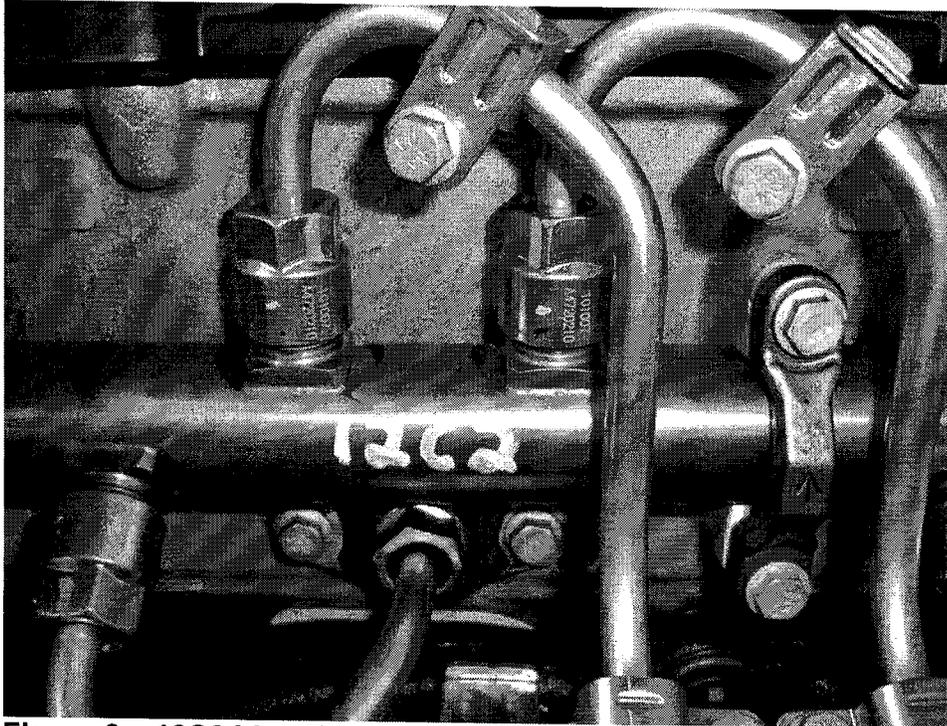

Figure 6 – 12C2 Identification on Fuel Rail.
If "12C2" is shown on a base label (Form WAR259) on the passenger-side door **OR** "12C2" is labeled on the Fuel Rail under the fuel feed line fittings (see Figure 6), no further work is necessary since the Recall has already been completed.
- Using a paint pen, write the campaign number "12C2" on the Fuel Rail under the High Pressure Fuel Feed Line fittings. See Figure 6.